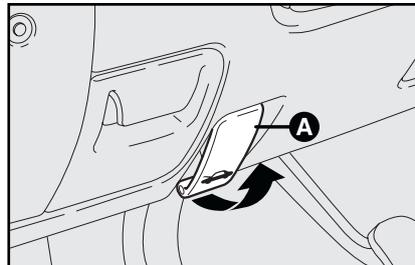

fig. 133
- Pull the lever on the left-hand side of the steering column **A**-fig. 133.